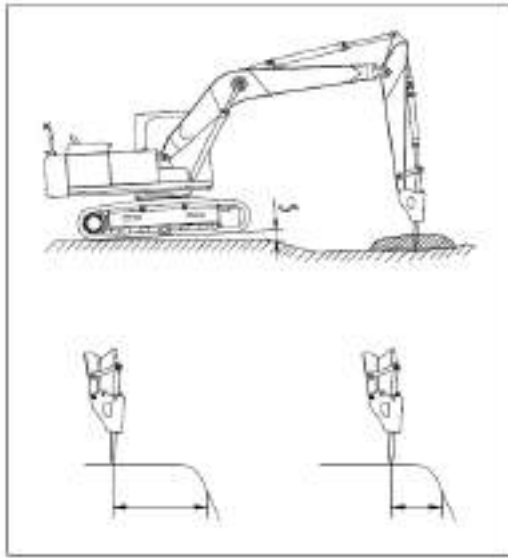

Figure 5-10 Precautions for use of hydraulic hammer (II)
c). If the chisel can not penetrate into or break the surface with continuous impact on the same surface within 1 minute, you should change the impact position to one close to the edge to break the surface (Figure 5-10).